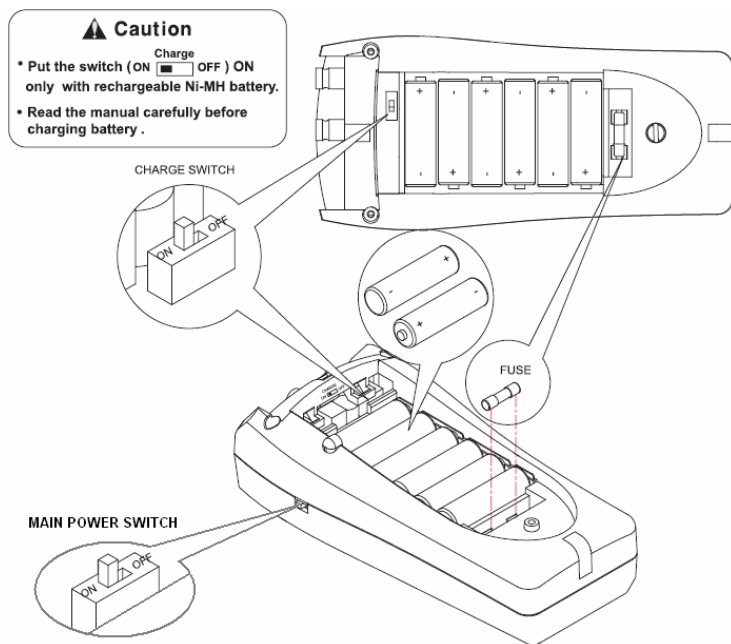

Figure 1
2. Place the charge switch under the battery cover to the ON position (figure 1).